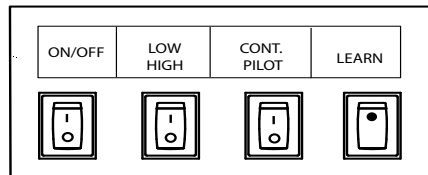

Fig. 32 Control panel
1. To **LEARN** (pair) the remote transmitter to the control module, press and release the LEARN button (switch) in the control box. See Fig. 32. You will hear single audible beep indicating the module is ready to learn the transmitter security code. Press any button on the transmitter within 60 seconds. The code is accepted when you hear 4 short beeps in rapid succession. Security codes will be retained in memory indefinitely if power is removed. **Note:** Control module accepts a total of three (3) wireless transmitters.